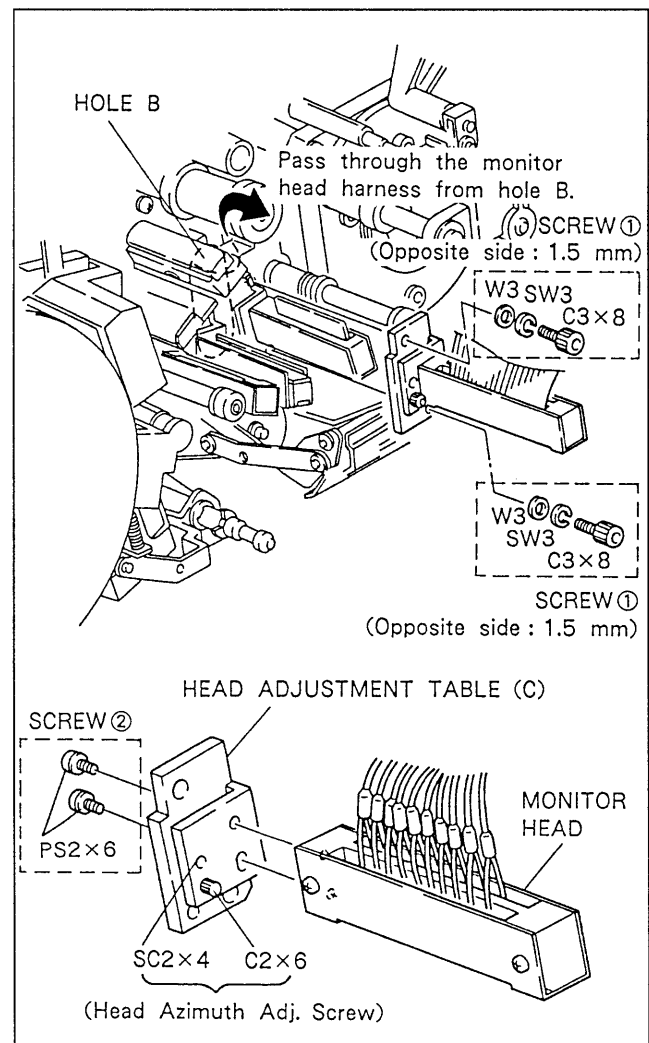
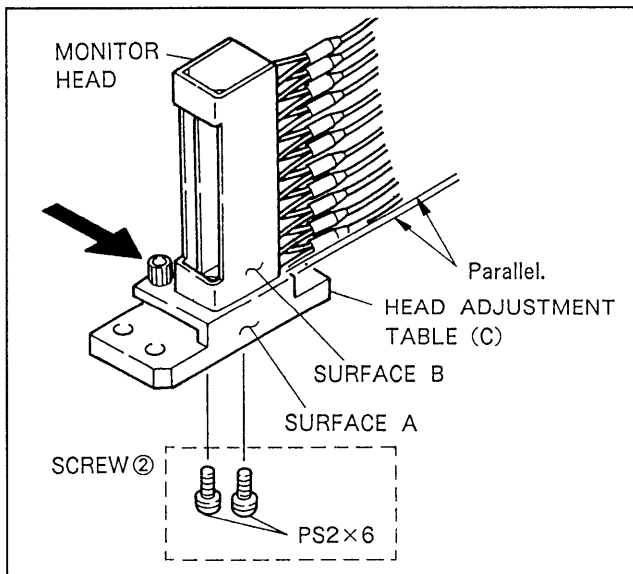

Fig. 6-17-2. Audio Monitor Head Assembly Replacement
Fig. 6-17-4. Monitor Head Mounting Position Adjustment
3. Pull out the monitor head harness from the hole B shown in Fig. 6-17-2.
4. Remove the monitor head assembly by removing two screws ① (including spring washers and flat washers).
7. Secure the monitor head temporarily onto the head adjustment table (C) with two screws ② shown in Fig. 6-17-4 (Once tightening the two screws and then loosen for 1/4 to 1/2 rotation.).
8. Push the monitor head to the direction of arrow and tighten two screws ② where the edge surface B of the monitor head becomes visually parallel with the edge surface A of head adjustment table (C).
9. Pass the monitor head harness through the hole B shown in Fig. 6-17-2.